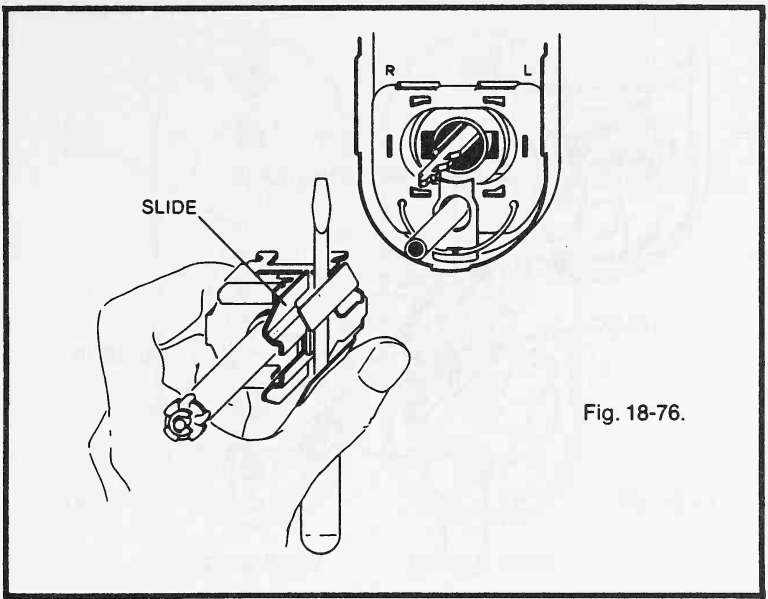

Fig. 18-76.
5. Compress the slide with a screwdriver and pull the assembly out (Fig. 18-76).